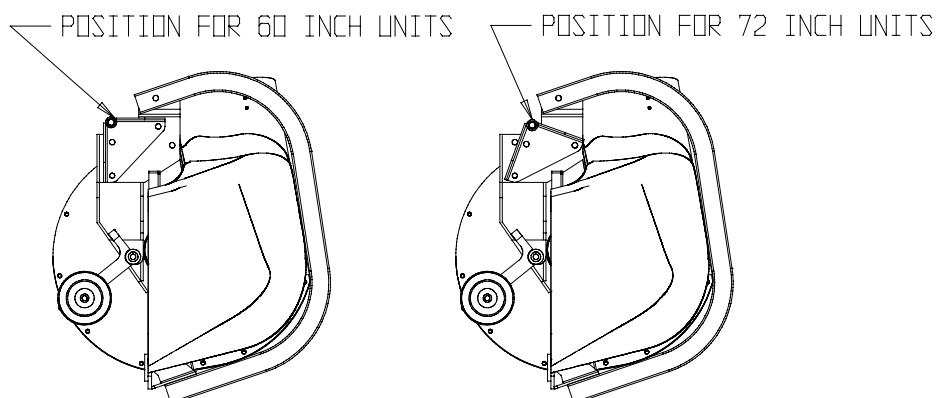

FIGURE 7
18. Install the mounting pin weldment (Item 18) to the blower assembly using the 3/8-16 x .75 bolts (Item 28) and whizlock nuts (Item 24). Maximum deck clearance will be provided if the bolts are installed from below the mounting pin. The mount pin can be installed in two positions. For 60 inch decks the pin should be installed as far away from the bumper end as possible. For 72 inch decks that pin should be installed close to the bumper end (see figure 7).